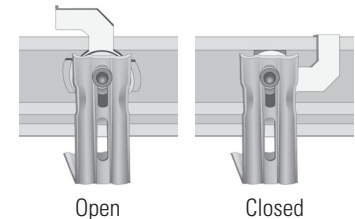

Figure 9: Track Installed
1. With swivel brackets in the open position, place track against the brackets and rotate the swivel right to secure the track in place [Figure 9].